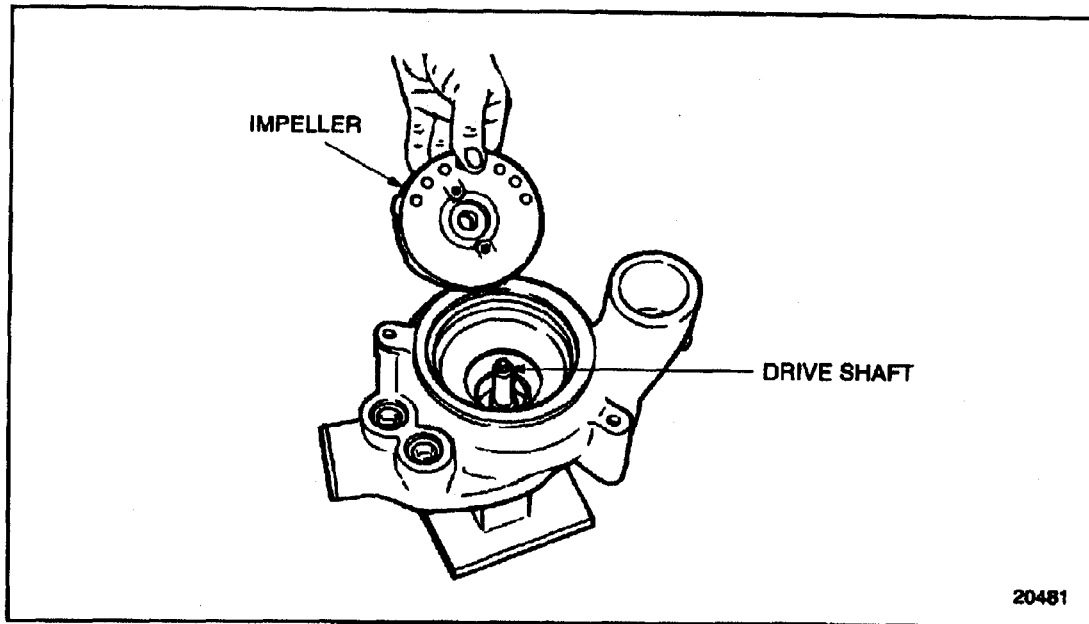

Figure 4-31 Water Pump Impeller Installation (GCM)
21. With the water pump housing still housed in tool J 35988-2, part of tool set J 35988-B, and located on a press bed, position the impeller over the square end of the drive shaft with the vanes of the impeller facing down. See Figure 4-31.